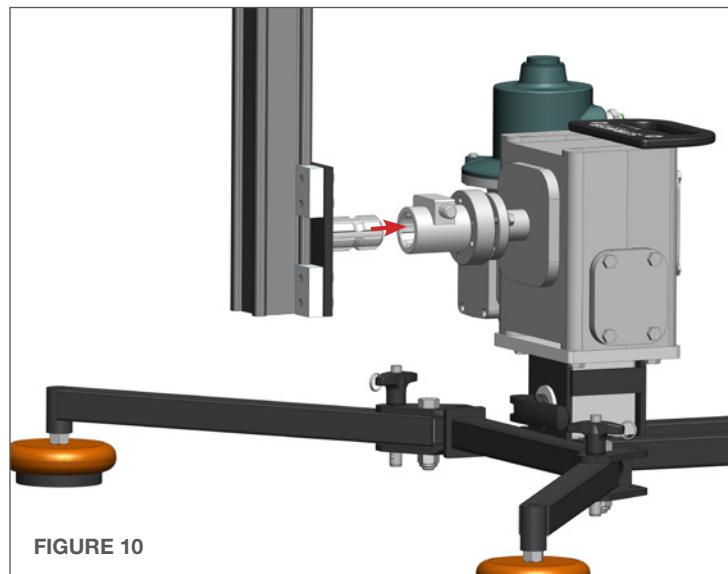

FIGURE 10
7. Install the Vertical Rail Assembly by aligning the splines on the Vertical Rail with the Splines inside the Spline Coupling. (**Figure 10**)